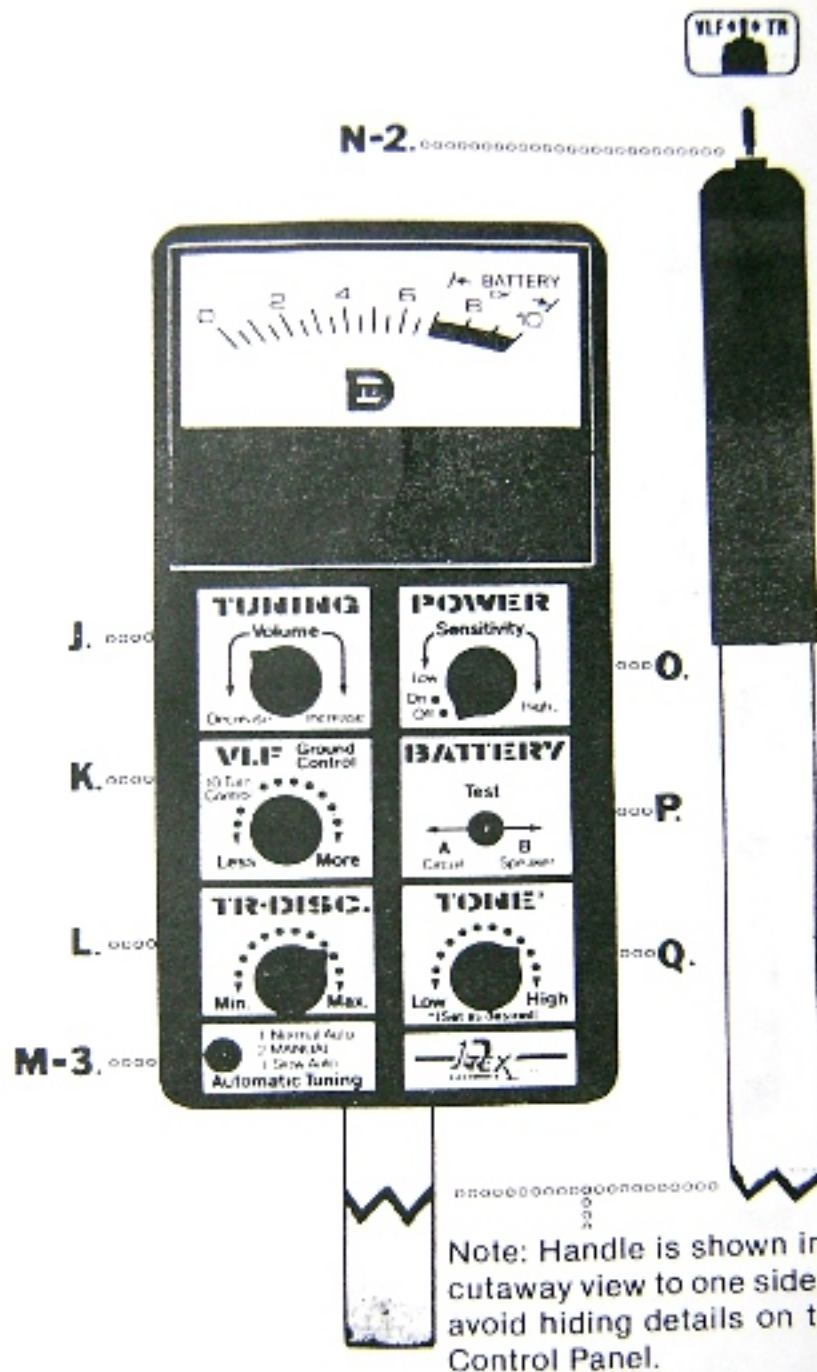

FIGURE 4 — For CK20, CK30, CK40, SK50, SK60, SK70, RS100, RS200 Models Only
| CK, SK, and RS Panels —Figure 4 | 10 |
1. TURNING IT ON (See Figure 4)
RETUNING AND MODE CONTROL (See Figure 4)
DISCRIMINATION — HOW TO SET (See Figure 4)
5. **CHECKING BATTERIES (See Figure 4)**
SELECTING SOUND PITCH (See Figure 4)